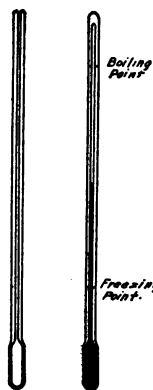

FIG. 7
**13. Liquid Thermometers.** Commoner than the metallic thermometers, however, are those made by the use of some liquid such as mercury or alcohol. In these (see Fig. 7) a glass tube has a thin-walled bulb blown on one end. The open end